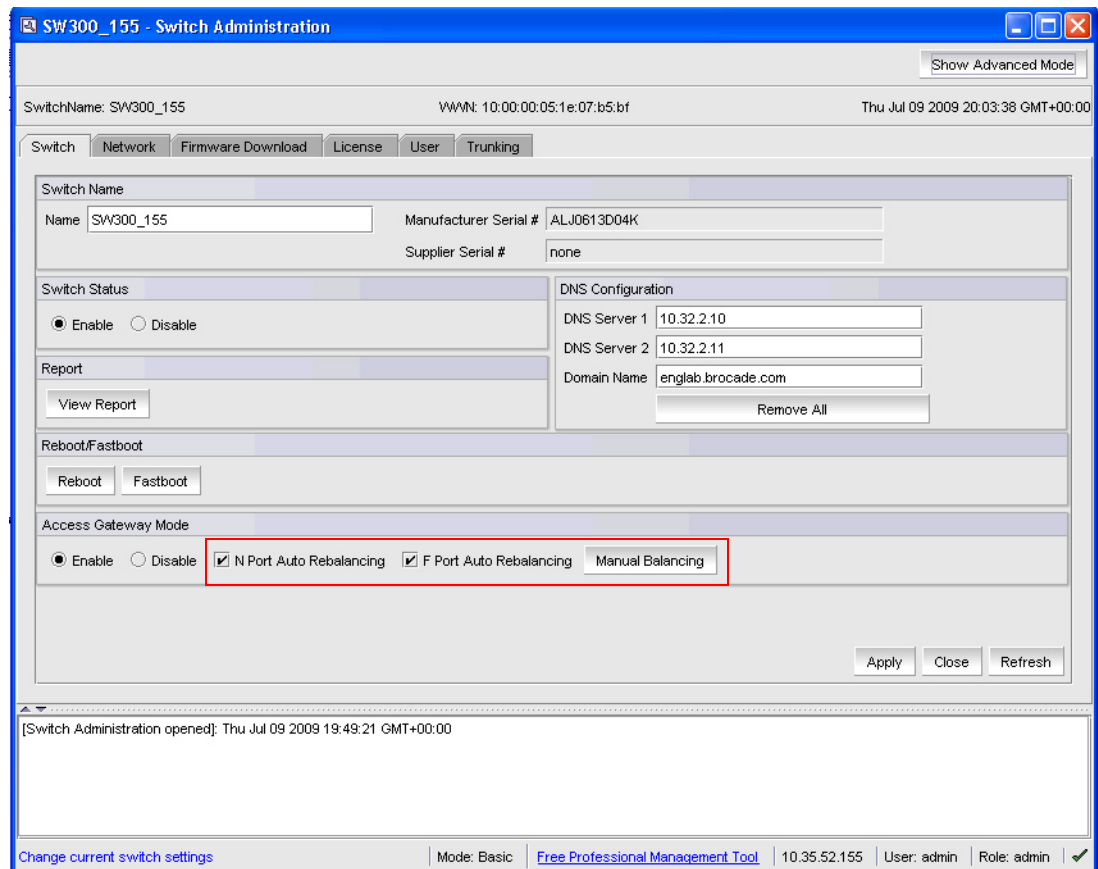

FIGURE 52 Access Gateway Auto Rebalancing
- In the **Switch Explorer** window, select **Switch Admin**. The **Switch Administration** window displays (Figure 52).